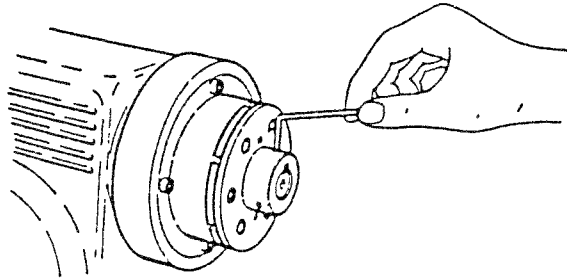

Fig. 13
(11) Tighten the set screw with hexagonal hole, and firmly fix armature hub 16 to the shaft. Apply a small amount of adhesive to the set screw to prevent loosening. (Fig. 13)